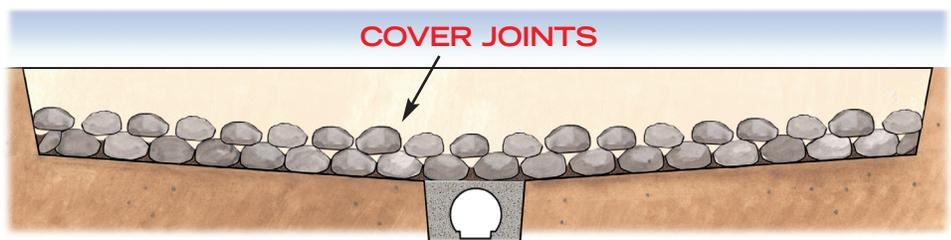

Figure 11
11. Place another layer of 4" to 6" stones on top of the joints of the bottom layer of stones. This will prevent the next layer of gravel from clogging up the spaces between the 4" to 6" stones. (Figure 11)